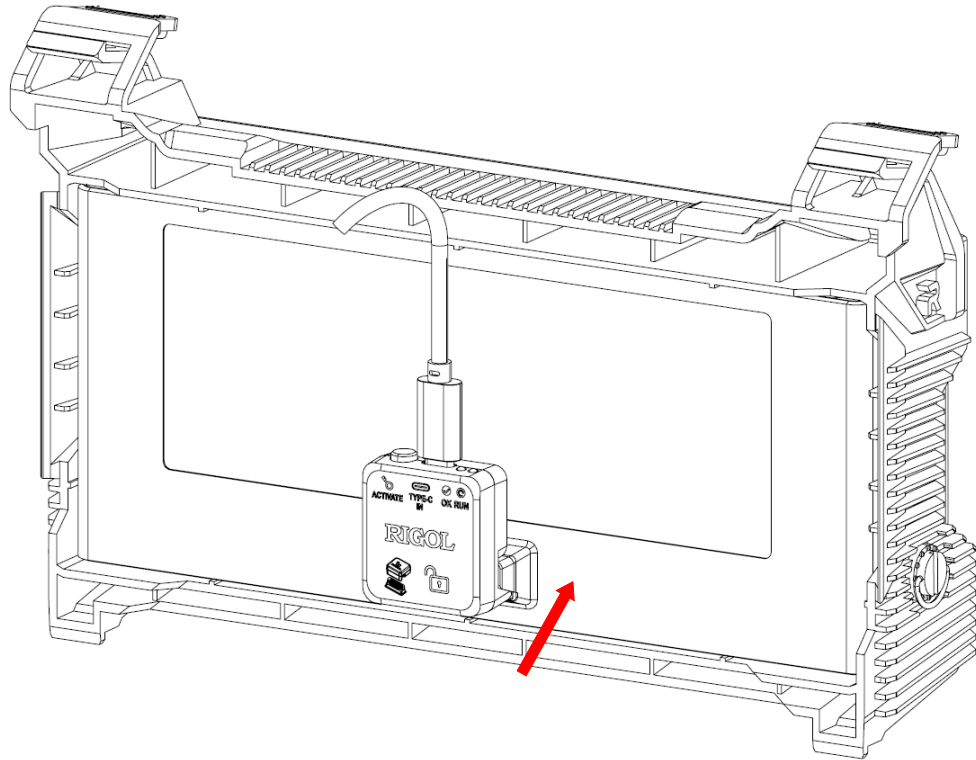

Figure 6.3 Connect the Activator
1. Connect the activator to the battery holder connector correctly as shown in Figure 6.3.
2. Use the USB Type-C cable to connect an adaptor (12 V/3 A) that conforms to the Power Delivery (PD) 3.0 Specification and then apply the AC power source. You can also connect a mobile power source (12 V/3 A). The green light "OK" of the activator is on, indicating that the activator is enabled (yet not powering the battery holder).